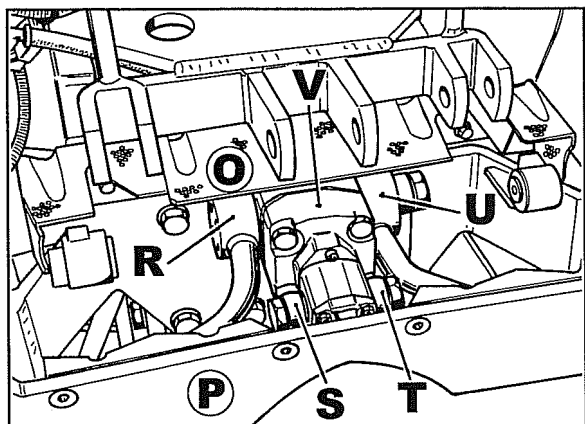

Fig. 19
- 20 Remove guard grille **O** fig. 19.
- 21 Slacken off ballast mount **P** fig. 19, disconnect hoses **R**, **S**, **T** and **U**, the delivery and suction lines for both pumps and then remove the ballast mounting.
- 22 Remove pump **V** fig. 19.